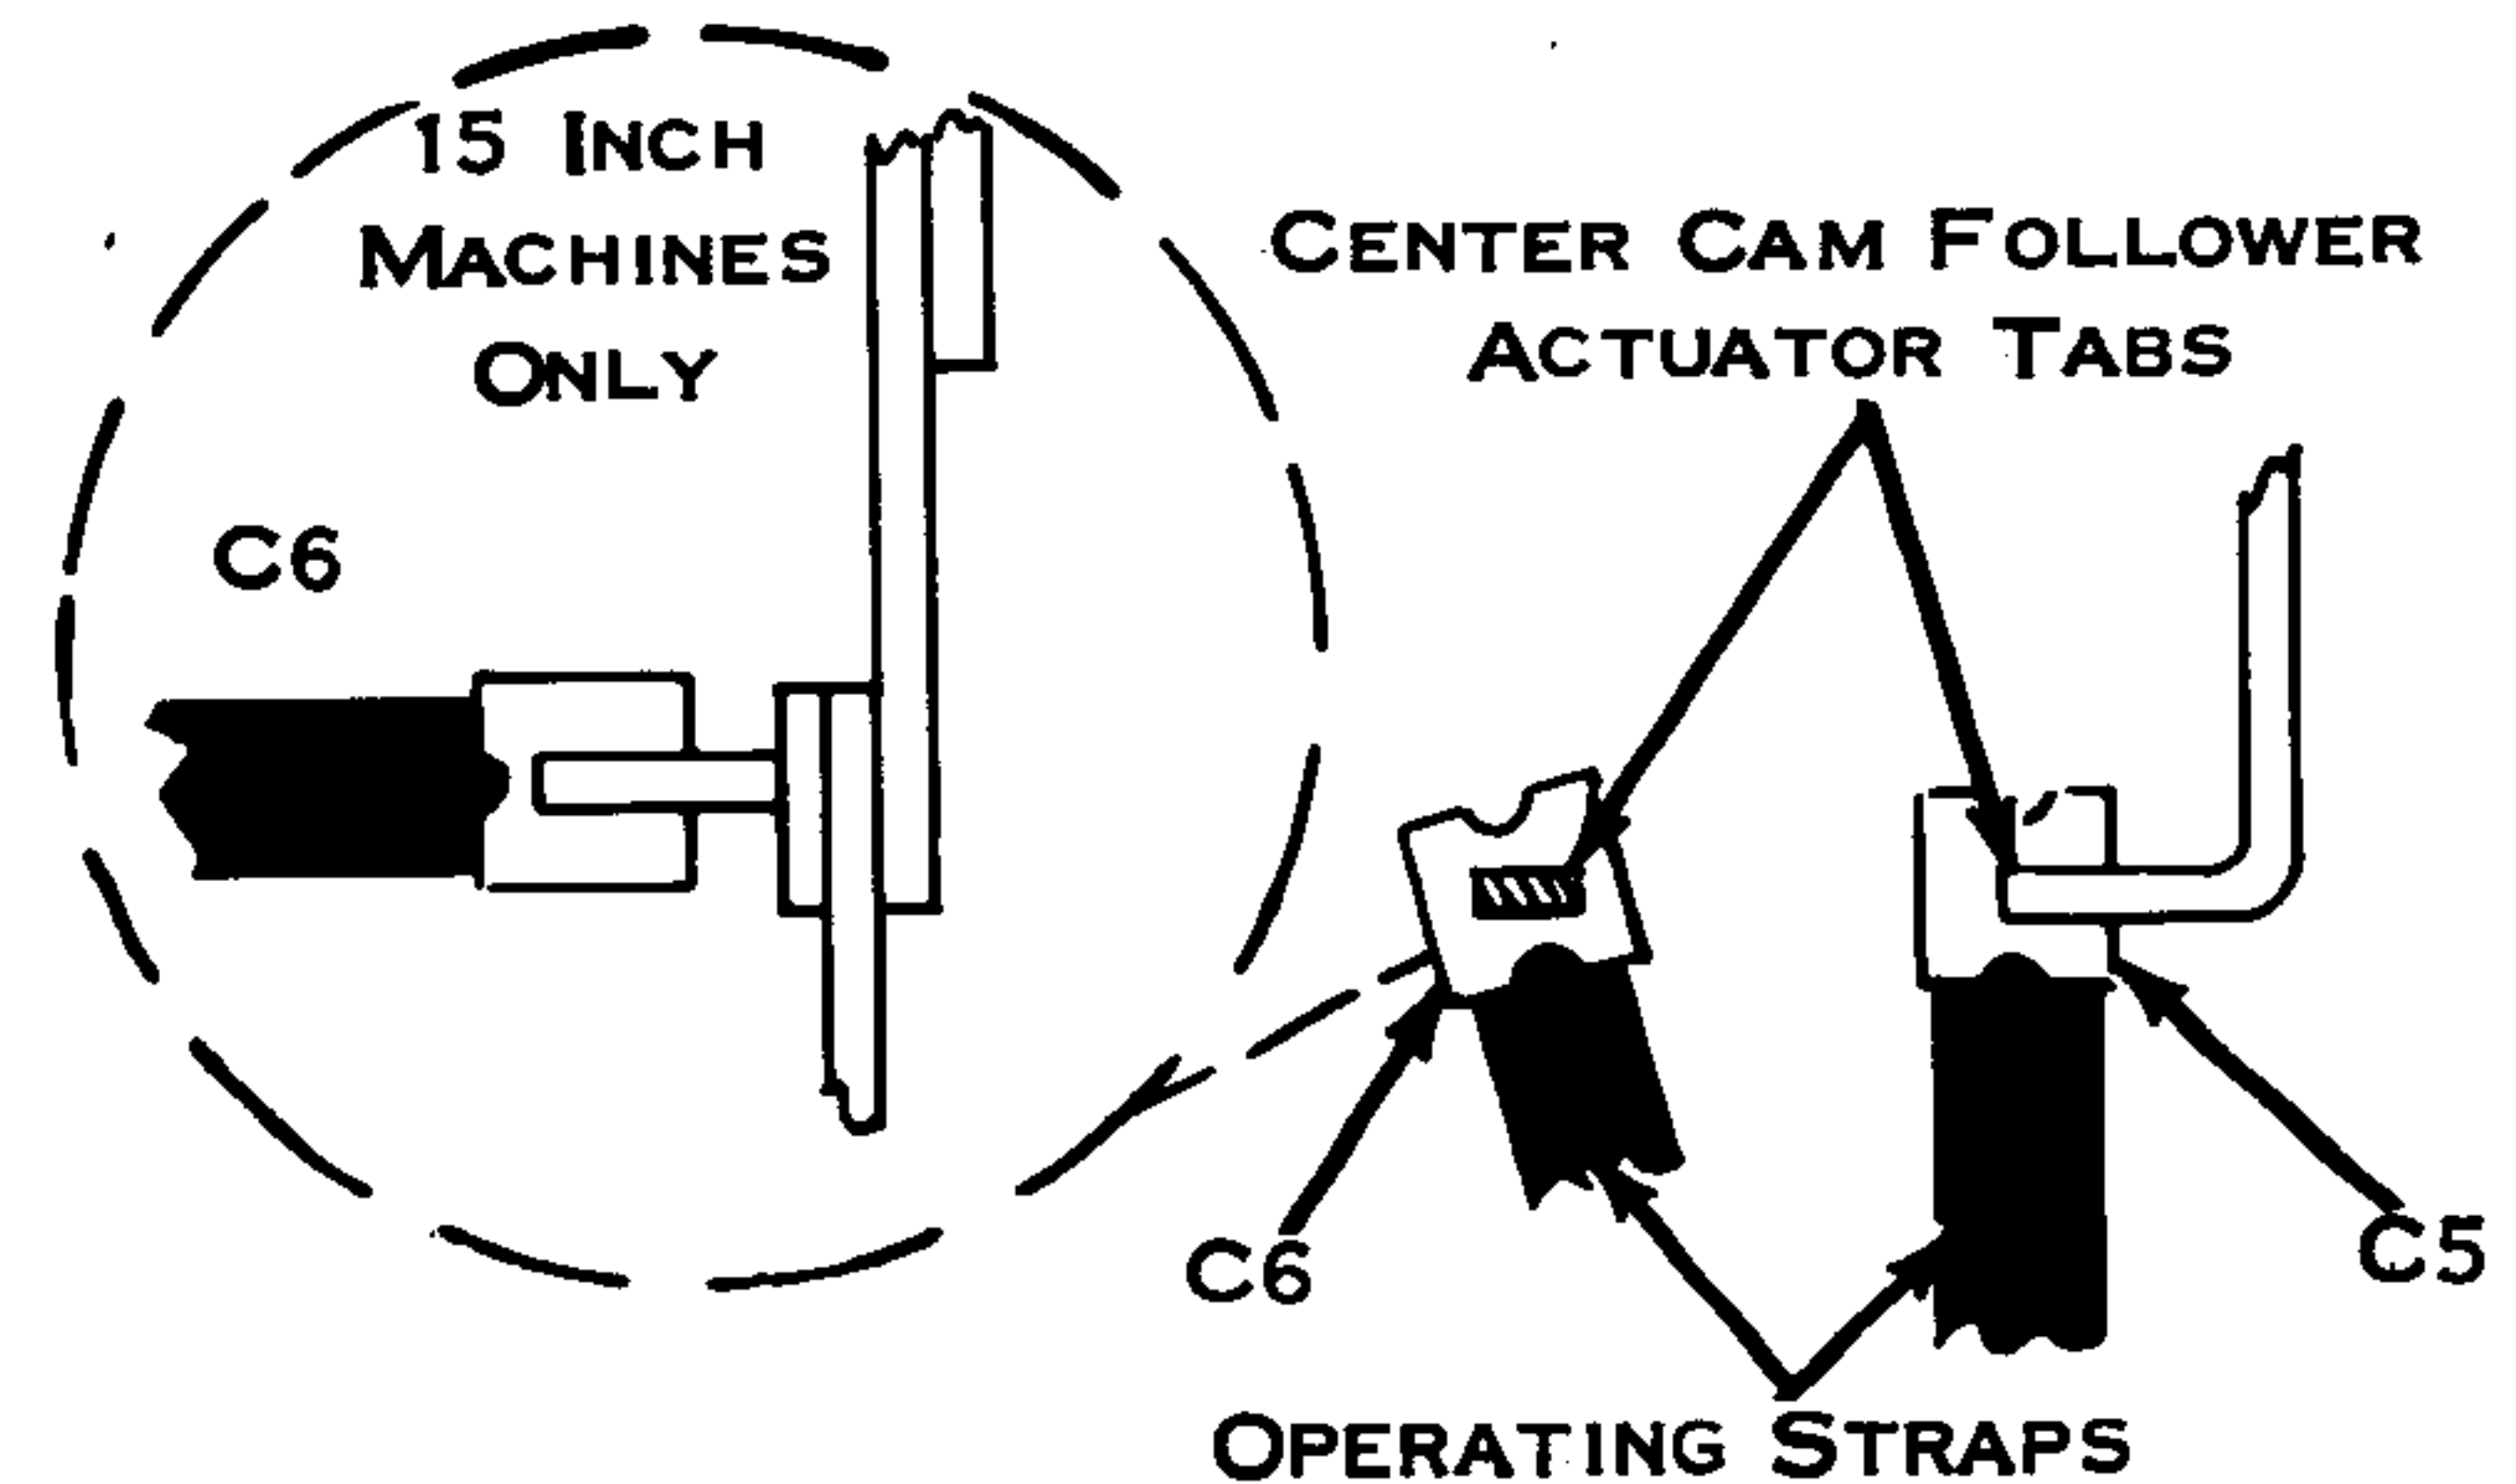

Figure 143. Operating Straps
1. Position the O/S's centrally under the actuator tab (Fig. 143).